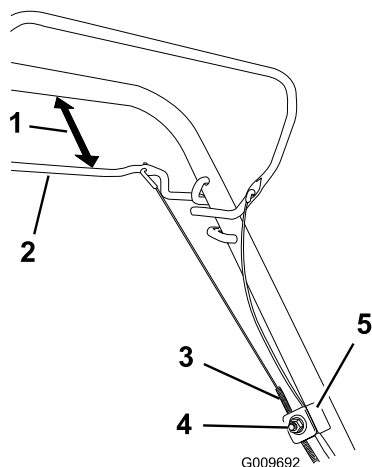

Figure 46
1. Loosen the cable support nut (Figure 46).
2. Hold the self-propel bail 1 to 1-1/2 inches (25 to 38 mm) from the handle (Figure 46).
3. Pull down the cable jacket (toward the mower) until there is no slack in the cable (Figure 46).